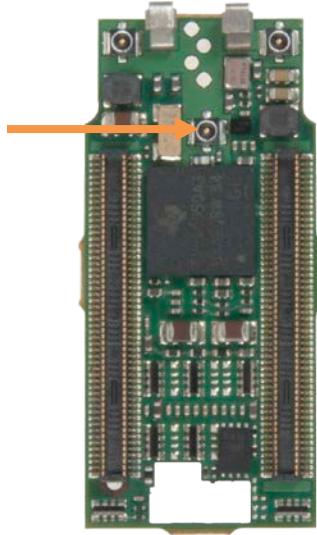

Figure 8.5: GPS Antenna Connector on DM3730 Torpedo + Wireless SOM
2. Connect the GPS W.FL-to-SMA cable on the baseboard to the GPS antenna connector at reference designator J8. See Figure 8.5 for the antenna connector location on the bottom of the DM3730 Torpedo + Wireless SOM.